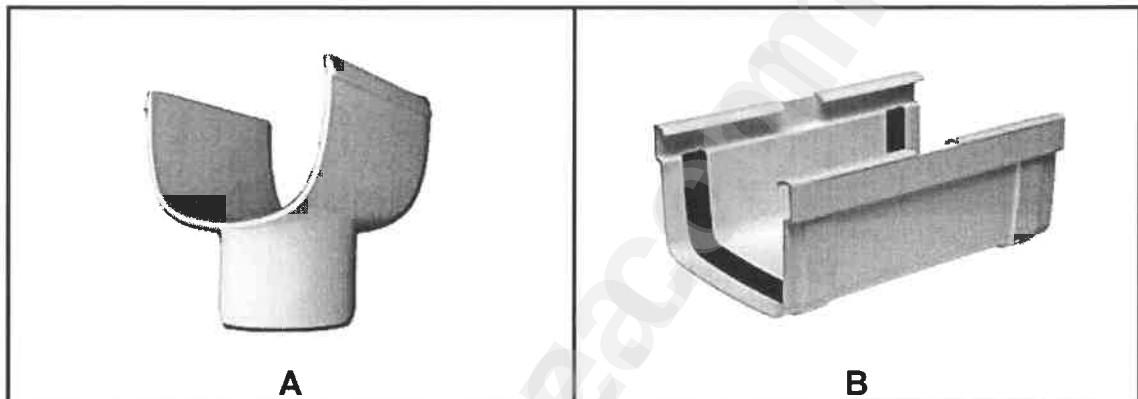

FIGURE 5.2
- 5.2 FIGURE 5.2 below shows TWO components of a gutter system.